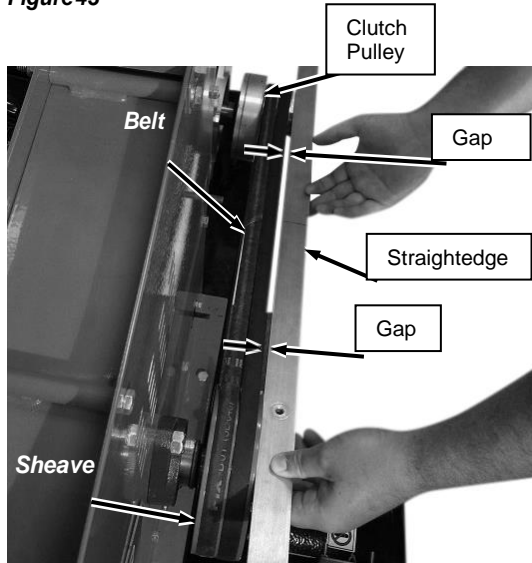

Figure 44
7. Remove the Belt from the Clutch and Sheave (**Figure 44**).
3. Check the alignment of the Clutch with the Sheave by placing a Straightedge flat across the Sheave outer surface and position the other end of the above (not touching) the face of the Clutch Pulley (**Figure 44**).